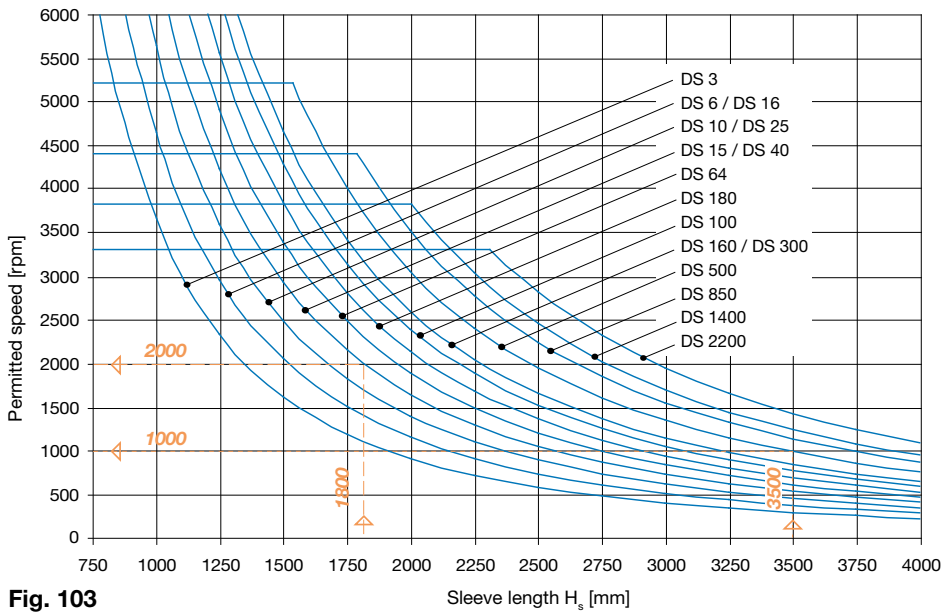

Fig. 103
### Permitted Speeds (Critical Bending Speeds) on Sleeve S, CRD Sleeve, CFRP Sleeve (Figs. 103, 104, 105)
#### Examples (Fig. 103)
- Please operate designs with sleeve S, CRD sleeves and CFRP sleeves at subcritical levels (see Figs. 103, 104 and 105).